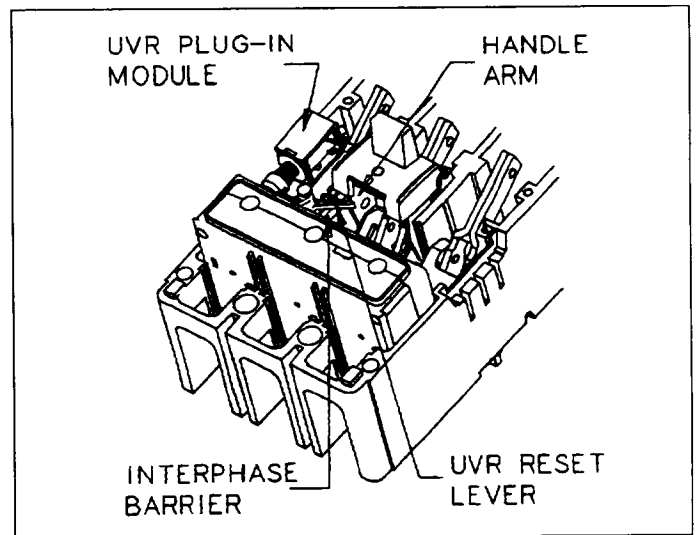

Fig. 2-4 UVR Installation
- 2-9. Install UVR as described in following steps (Fig. 2-4):
- b. Press intermediate plunger into recess in trip unit, and hold in position. **Lightly compress the solenoid plunger to allow the molded reset lever to pass the handle assembly. In addition, the solenoid plunger must be compressed such that the face of the solenoid plunger clears the edge of the intermediate plunger.** Slide UVR plug-in module into slots in trip unit (Fig. 2-4) until retaining clip snaps into trip unit. **Do not attempt to force the UVR into position.** For terminal block assemblies, slide terminal block into mounting slot on side of base as plug-in module is properly positioned.